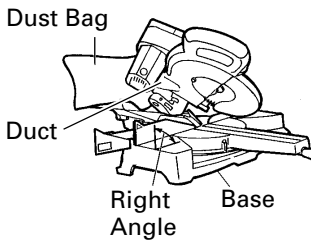

Fig. 49
- (1) When the dust bag has become full of sawdust, dust will be blown out of the dust bag when the saw blade rotates. Check the dust bag periodically and empty it before it becomes full.
- (2) During bevel and compound cutting, attach the dust bag at a right angle to the base surface as shown in Fig. 49.